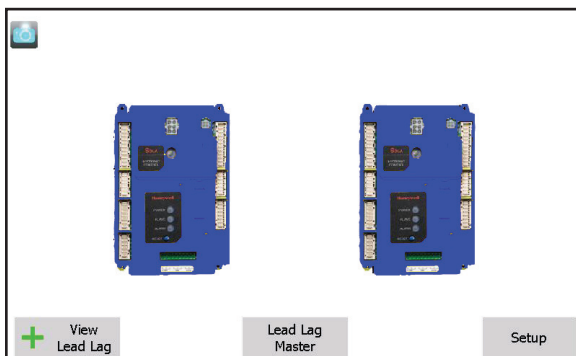
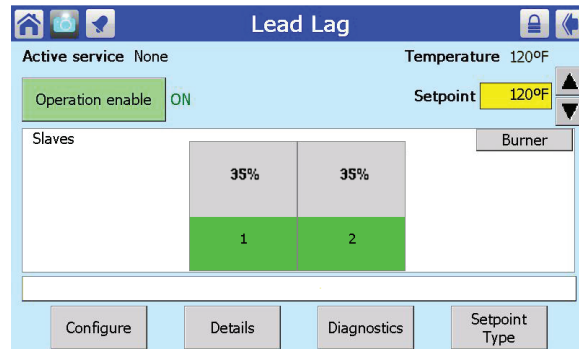

Fig. 80 - 'home' screen
Fig. 81 – Lead/Lag Master Screen
- From the 'home' screen (Fig. 80), press the Lead Lag Master button. Figure 81 shows the screen that follows.